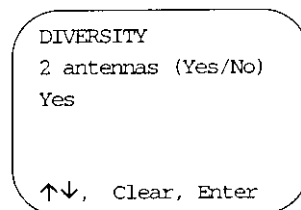

Figure D-7. Diversity Screen
6. Select **Diversity** from the main configuration menu. The *Diversity* screen (Figure D-7) is displayed.